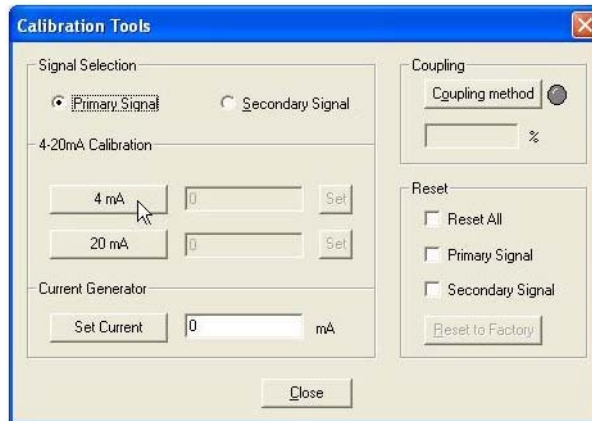

Figure 224 Starting 4 mA Calibration
1. Click on **4 mA** as (Figure 224).